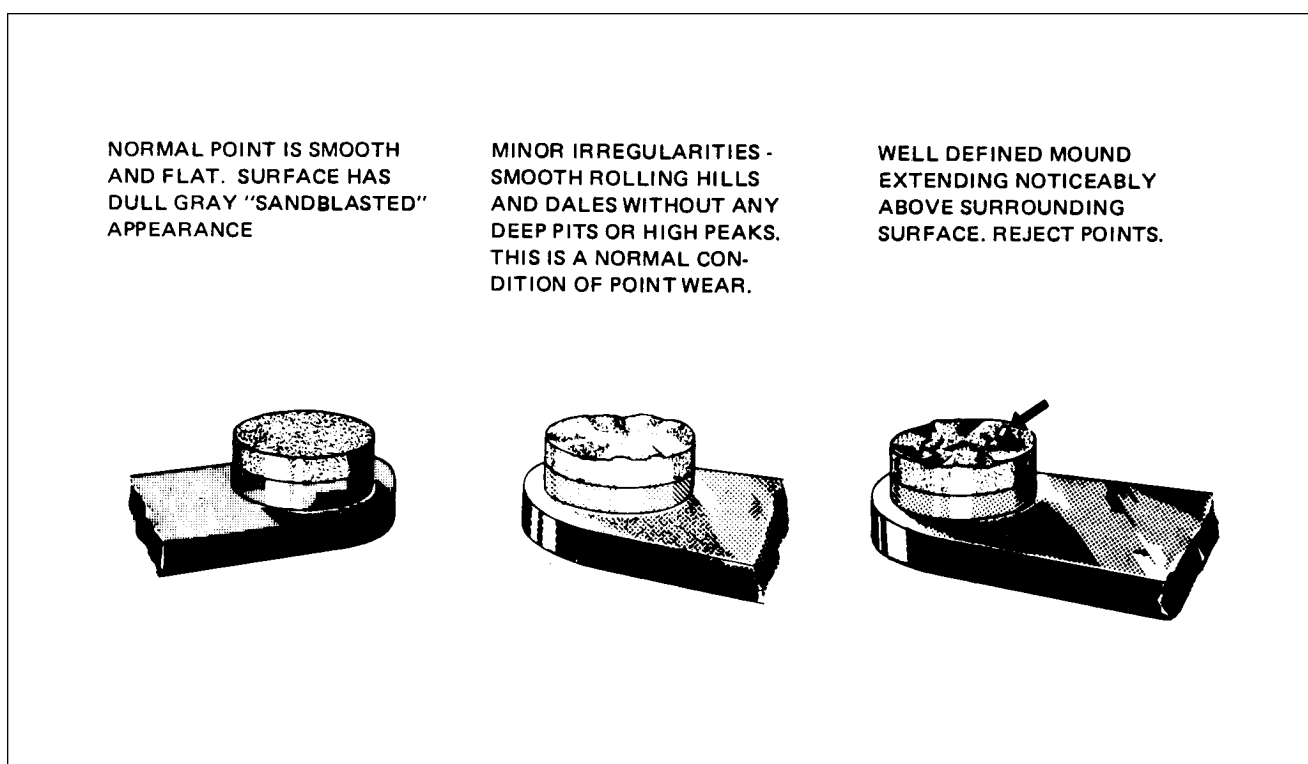

Figure 8A-8. Contact Points
- e. Remove the breaker cover and harness securing screws and nuts and separate cover from magneto housing. Check contact assemblies to see that cam follower is securely riveted to its spring. Examine the contact points for excessive wear or burning. Figure 8A-8 shows how the average contact point will look when surfaces are separated for inspection. Desired contact surfaces have a dull gray, sand-blasted (almost rough) or frosted appearance, over the area where electrical contact is made. This means that points are worn in and mated to each other, thereby providing the best possible electrical contact and highest efficiency of performance.
- f. Minor irregularities or roughness of point surfaces are not harmful. (Refer to Figure 8A-8, center.) Neither are small pits or mounds, if not too pronounced. If there is a possibility of pit becoming deep enough to penetrate pad, Figure 8A-8, right, reject contact assembly.